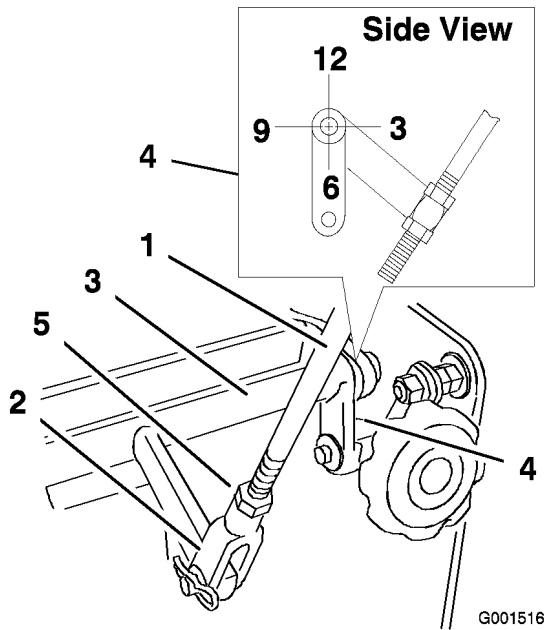

Figure 33
4. Check the orientation of the tabs on the ends of the speed control crank. These tabs should be pointing straight down at the 6 o'clock position approximately (Figure 33).
- Adjust the threaded yoke at the bottom of the speed control linkage until the tabs are at the 6 o'clock position (Figure 33).